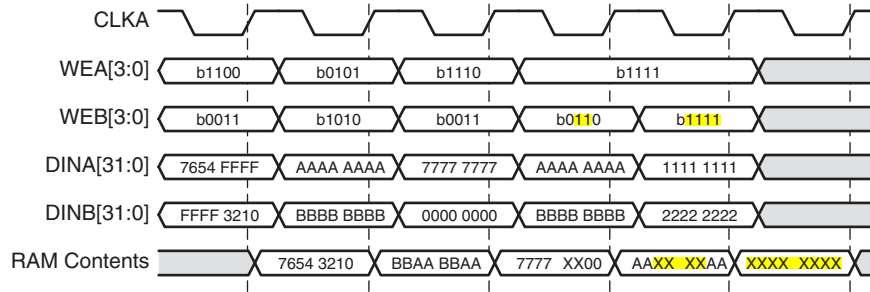

Figure 3-15: Write-Write Collision Example
- **Using Byte-Writes:** When using byte-writes, memory contents are not corrupted when separate bytes are written in the same data word. RAM contents are corrupted only when both ports attempt to Write the same byte. Figure 3-15 illustrates this case. Assume `addra = addrb = 0`.